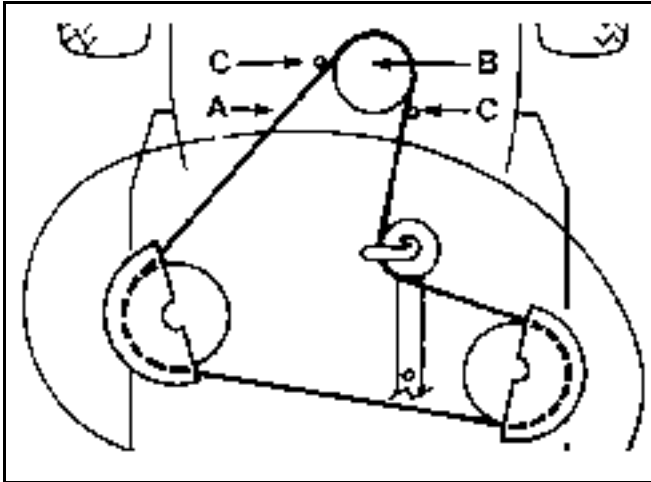

Figure 216
14. Remove the mower belt from the lower engine pulley (Figure 216). If you are careful, you can flex the belt guide(s) just far enough away from the pulley to remove the belt. If it is too difficult to remove the belt, loosen the bolts and nuts securing the belt guides.
4. Install mower belt onto the lower engine pulley (Figure 216). If you are careful, you can flex the belt guide(s) just far enough away from the pulley to install the belt. If it is too difficult to install the belt, loosen the bolts and nuts securing the belt guides.